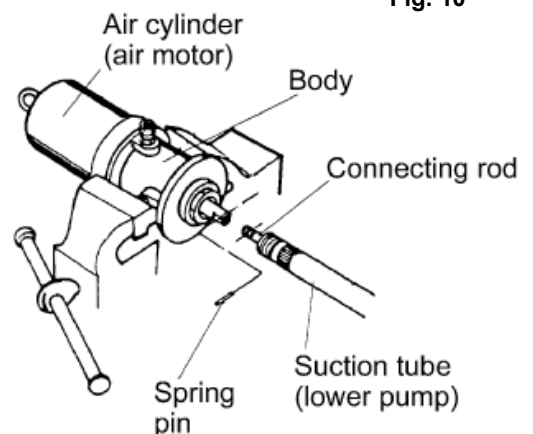

Fig. 10
- 5) Fix the air motor body of the pump on the vise and set a pipe wrench on the knurling section of the suction tube of the lower pump and unscrew it. (Fig. 10)
- 6) Pull out the suction tube, and the connecting stud that connects the piston rod of the air motor becomes visible. Pull out the spring pin of the connecting section and unscrew the connecting stud or the lower pump, and the air motor can be separated from the lower pump. (Fig. 10)